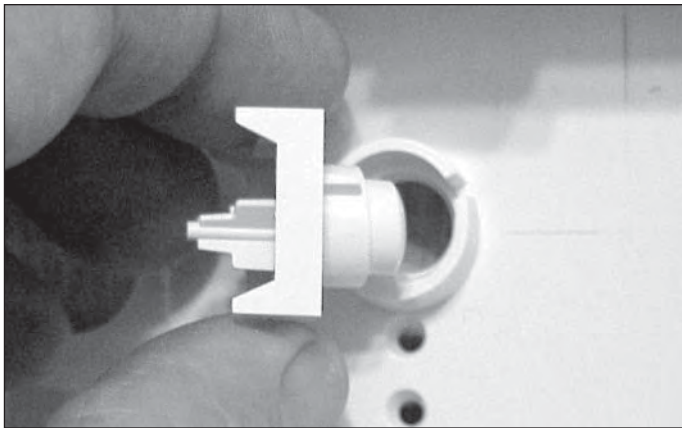

Figure 4-25.
2. With the electronic control removed the delay start button will lift out. (See Figure 4-25)